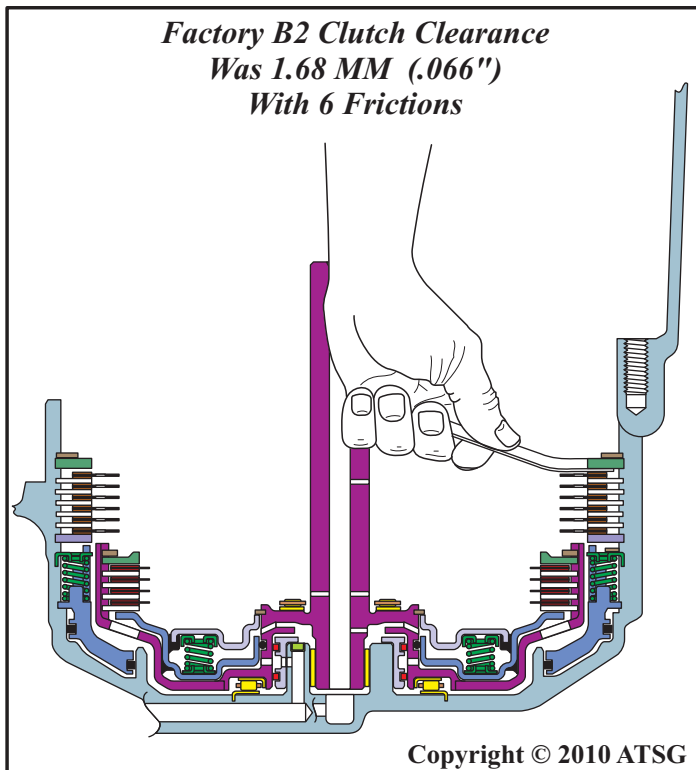

Figure 170
8. Measure the B2 clutch clearance with a feeler gauge between the backing plate and friction plate, as shown in Figure 170.
Note: *There are no factory clutch clearance specifications available, but the clearances were the "traditional" .010" per friction plate through-out this unit. Refer to Figure 170 for B2 clutch clearance with 6 frictions.*